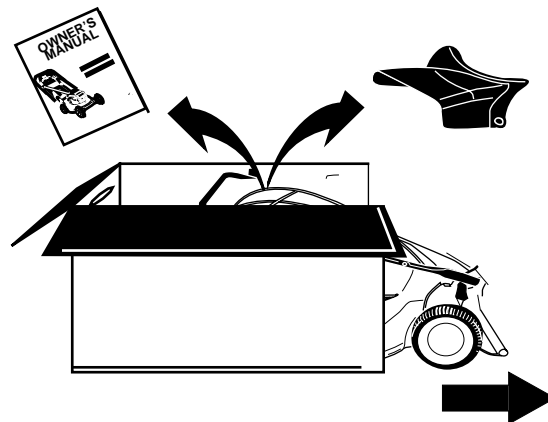

FIGURE 2
- Remove loose parts if included with unit (i.e., owner's manual, etc.). See Figure 2.
- Roll or slide unit out of carton. Check carton thoroughly for loose parts. See Figure 2.